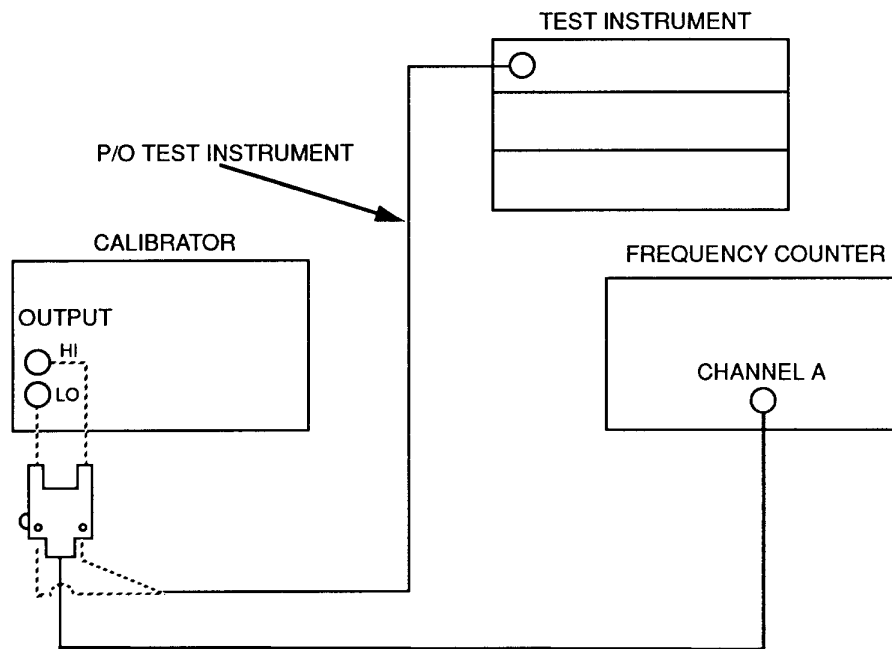

Figure 1. Frequency meter - test equipment hookup.
(1) Connect equipment as shown in figure 1.